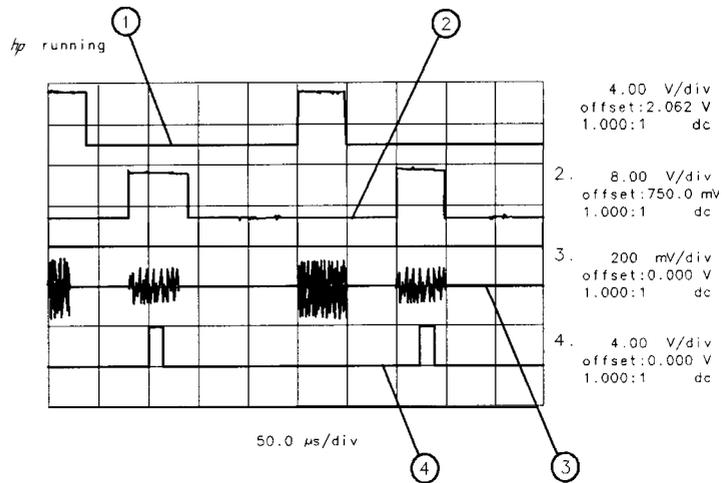

Figure 5-24. Placing the Gate Output During the Second Signal
- To view the second signal, change the gate delay so that the gate output is under the second signal. Since the second signal had a signal delay of approximately  $85 \mu\text{s}$ , we set the gate delay to  $85 \mu\text{s}$  plus the pulse width/2, or  $110 \mu\text{s}$ . Press **[SWEEP]**, Gate Control , GATE DELAY 110 **[ $\mu\text{s}$ ]** to set the gate delay to  $110 \mu\text{s}$ . Using an oscilloscope can be helpful in placing the gate output during the pulsed signal. See Figure 5-24.
Item	Description of Items in Figure 5-24